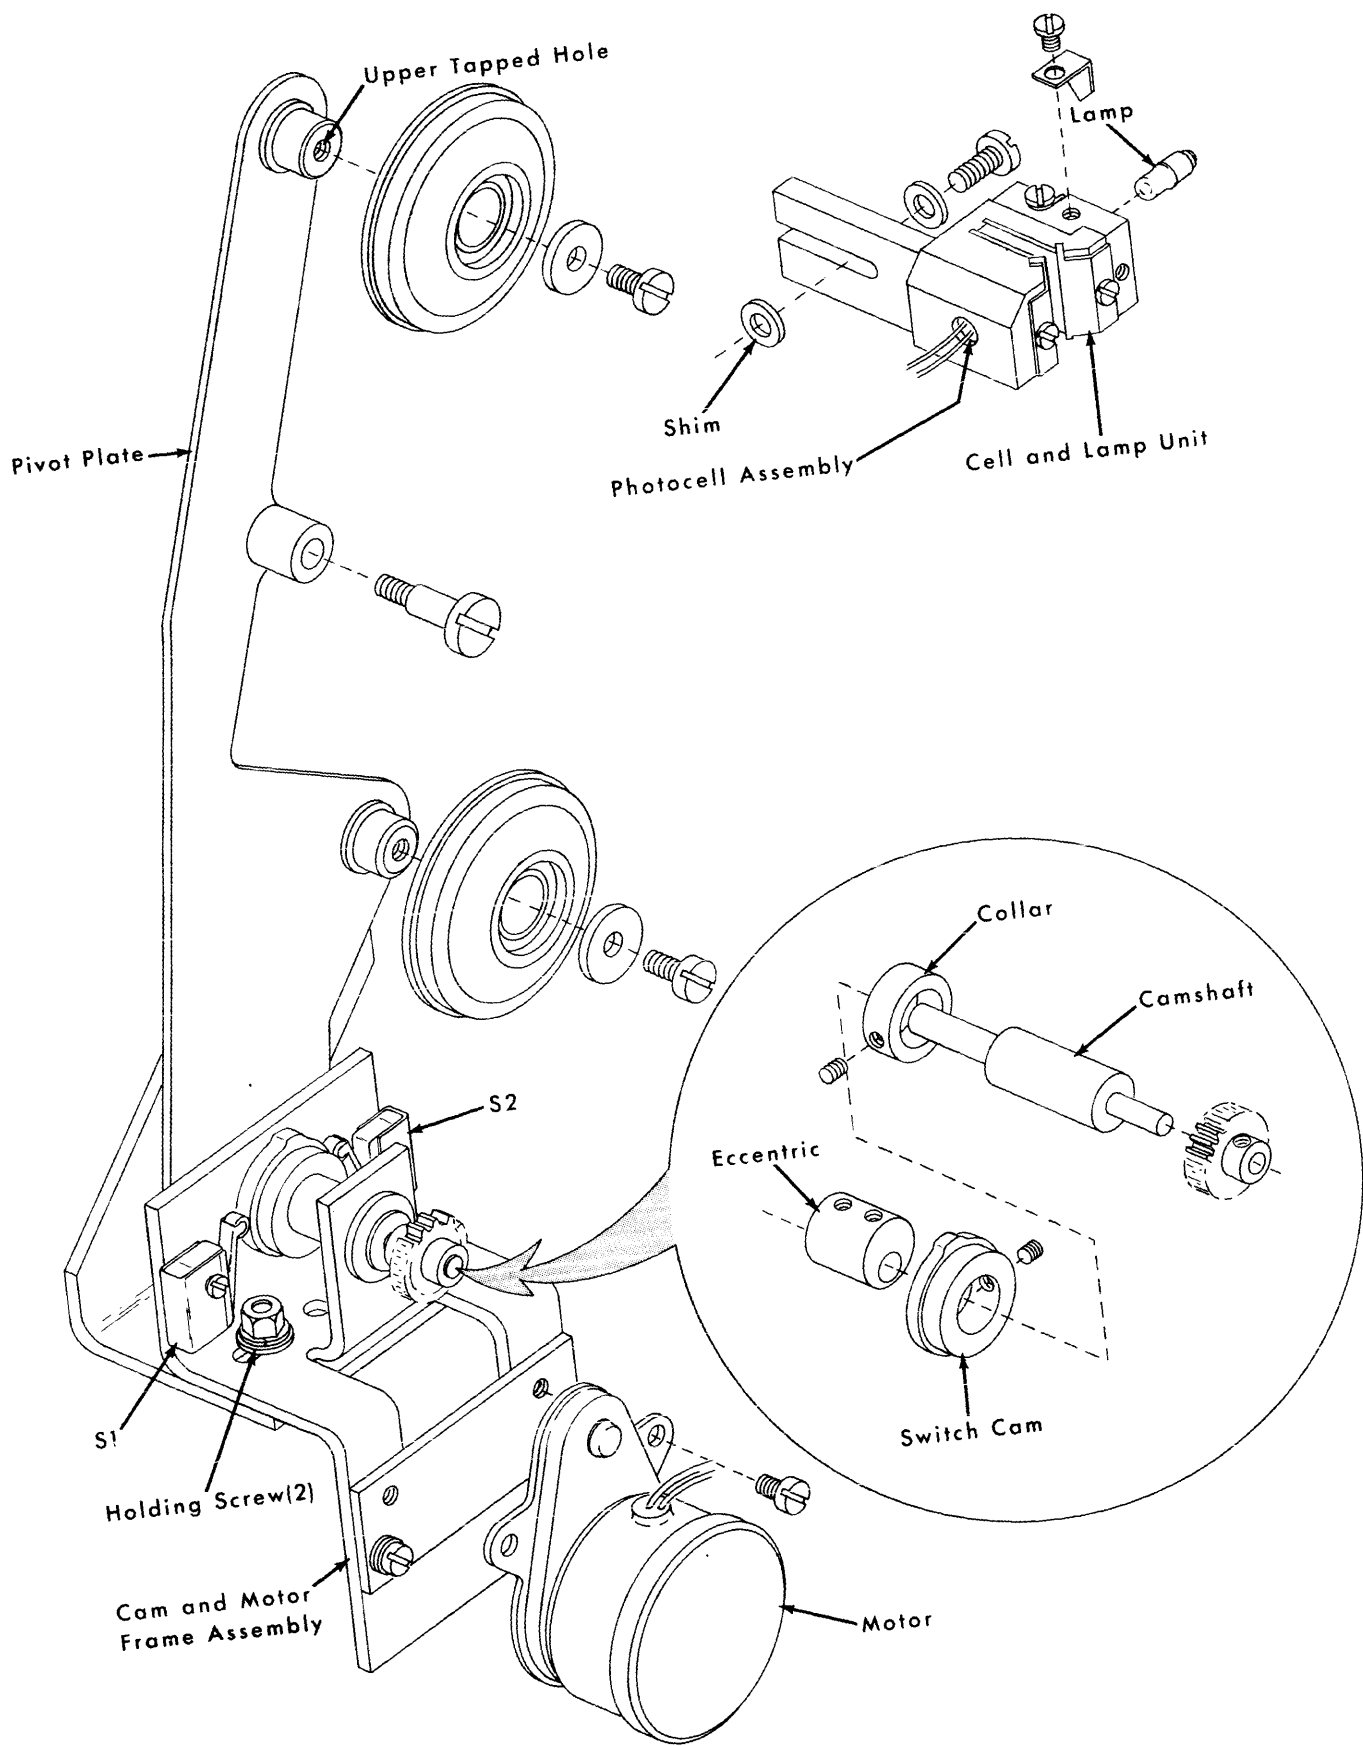

Figure 39. Auxiliary Ribbon-Correction Device
1. Position this unit (Figure 39) laterally as follows: